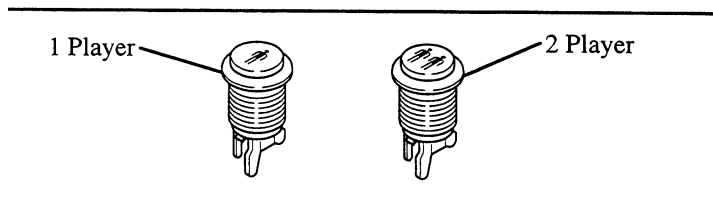

FIGURE 3
16. Notice that there are two white buttons. (See Figure 3.) The WHITE buttons are START buttons. Install the PLAYER ONE button on the top left-hand side of the control panel, and the PLAYER TWO button on the top right-side of the control panel.